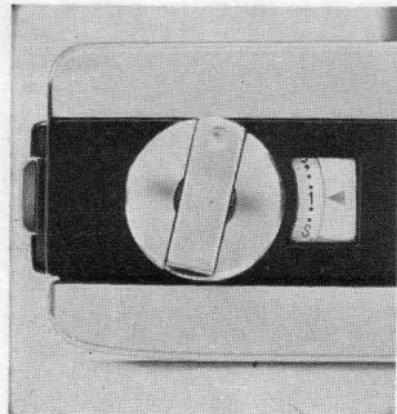

Fig. 9
- 8. Turn the WINDING KNOB until the spring is fully charged. Press the SHUTTER RELEASE BUTTON three times so that the number "1" in the EXPOSURE COUNTER is opposite the mark "◀". (Fig. 9)